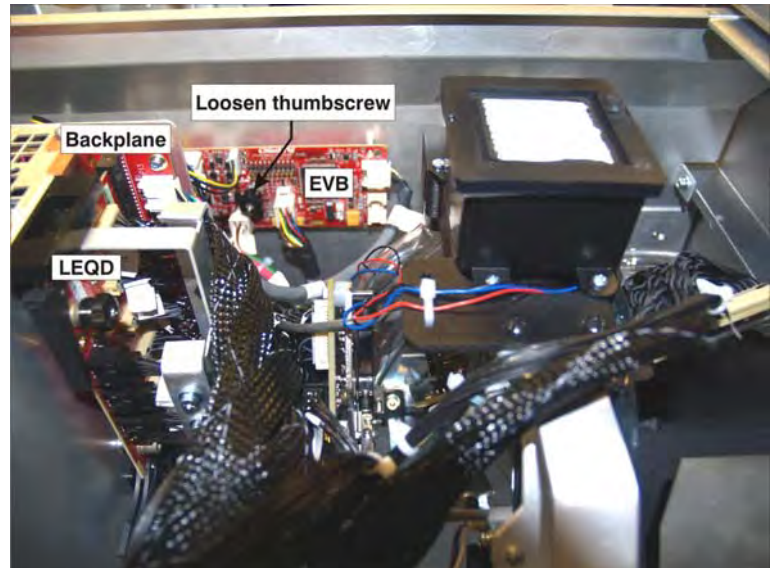

Figure 5-32 Remove EVB
3. Loosen the single thumbscrew securing the EVB in place (**Figure 5-32**).